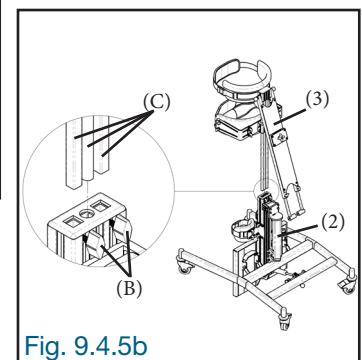

Fig. 9.4.5b
9.4.5 On the stabilizer (3), move the hip stop (A) upwards to release the lower part of the rods (Fig. 9.3.5a). Loosen the two locking knobs (B) at the back of the chassis (2) slightly. Insert the rods (C) of the stabilizer (3) into the frame (2). Tighten the locking knobs (B) at the back of the frame (2) (Fig. 9.4.5b).